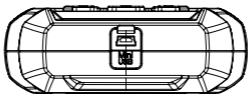

Figure 2.1.3
8. Mini-USB Port: This port is for you to connect to the PC to transfer the diagnostic or battery test report. (See Figure 2.1.3)